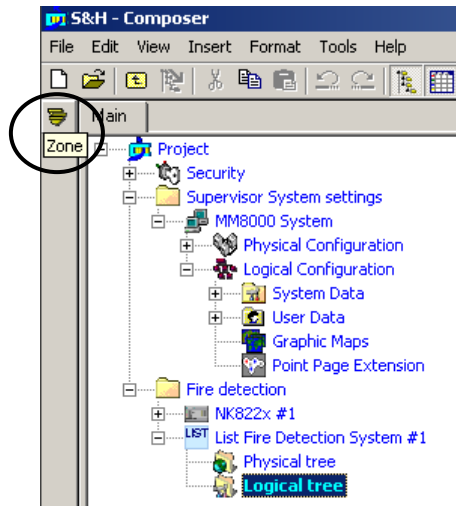

Fig. 14 Adding Zone objects in the Logical Tree
5. Click the **Zone** icon (Fig. 14) to add as many zones as required by your configuration.